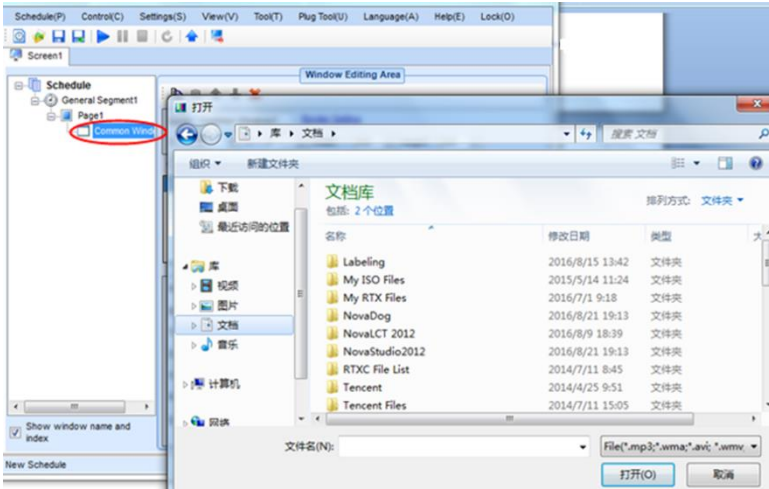

Fig 4-28 Opening a Playing Solution File
**Open:** After a playing solution is saved, you can directly click **Schedule** in the toolbar and select **Open** to open the playing solution. See Fig 4-28: